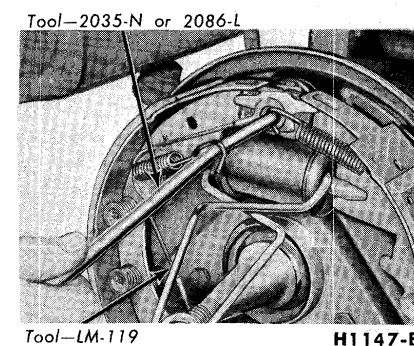

FIG. 6—Typical Retracting Spring Installation
5. Install the primary shoe to anchor (short) spring with the tool shown in Fig. 6.
7. Install the secondary shoe to anchor (long) spring (Fig. 6).